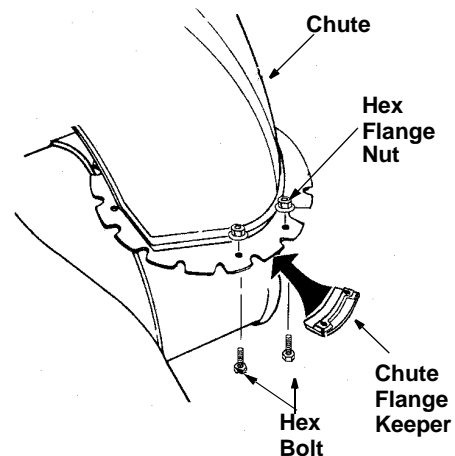

Figure 4
- Place the chute flange keeper (flat side down) beneath lip of chute assembly as shown in Figure 4. You will find the chute flange keepers in group E of the hardware pack.
- Insert 1/4-20 hex bolt and flange nut from group E up through chute flange keeper and chute assembly as shown in Figure 4. Do not tighten at this time. Rotate chute to install all the flange keepers.